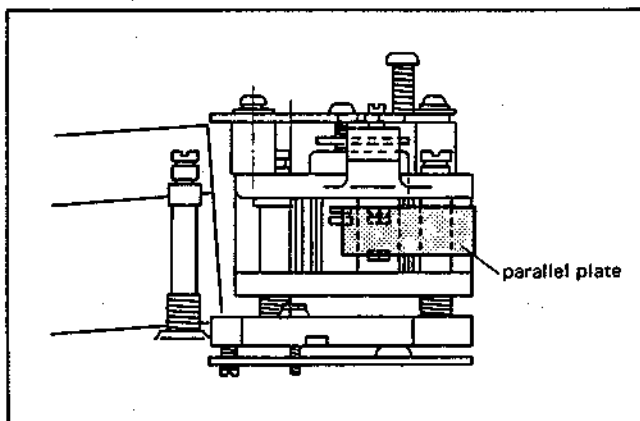

Fig. 2-25
- 1) Place the parallel plate SL-0657 on No. 5 guide and audio/CTL head. (Fig. 2-25)